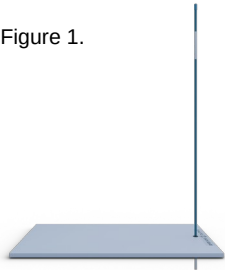

Figure 1.
Step 2 Once a good location has been determined, place the snow board on the ground and anchor it to the ground by extending the marker pole through the grommet and into the ground (Figure 1). The snow marker stake serves two purposes: (1) To help identify the location of the snow board and (2) to secure the snow board to the ground. **CAUTION: Handle the fiberglass snow stake with care; gloves highly recommended to avoid splinters.**